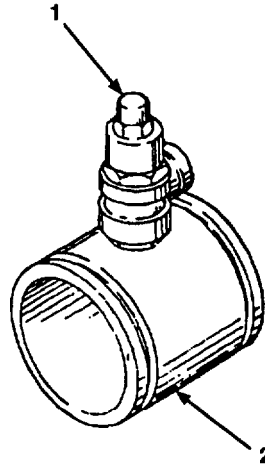

Figure 4-12. Pressure Relief Valve Assembly Maintenance.
- a. Unscrew and remove safety relief valve (Figure 4-12, 1) from pipe coupling (2).
- a. Inspect safety relief valve (1) for cracks, holes, or damage.
- b. Inspect pipe coupling (2) for cracks, holes, bends, or damage.